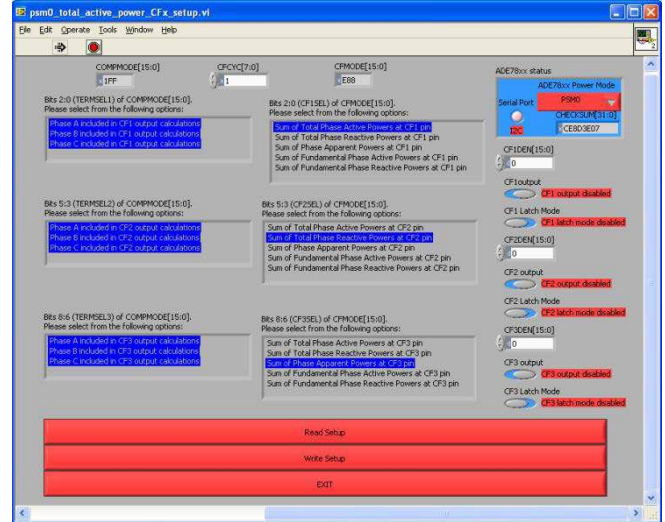

Figure 13. CFX Configuration Panel
3. Click **CFx Configuration** to open a new panel (see Figure 13). This panel gives access to all bits and registers that configure the CF1, CF2, and CF3 outputs of the ADE7854A/ADE7858A/ADE7868A/ADE7878A. **Read Setup** and **Write Setup** update and display the CF1, CF2, and CF3 output values.